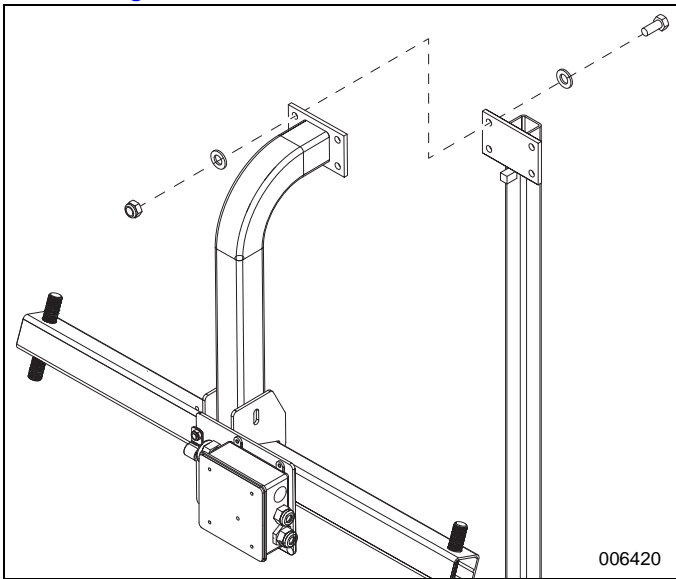

Figure 4. Crossbar Removal
10. See Figure 4. Remove crossbar from mast.